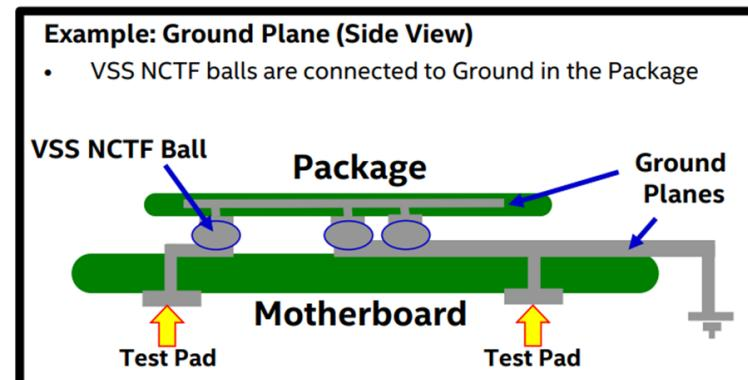

Figure 1: VSS Example
- Some corner NCTF SJ's have pins connected to the package VSS/GROUND plane and/or VCC/POWER plane, which can be used to test SJ connectivity with ICT, using isolated test pads added to the customer's motherboard designs -> see Figures 1 & 2 below
OPTIONAL: For corner NCTF SJ testability, these BGA pins (shown in the tables and in green color) can be connected to isolated motherboard test pads and not connected to motherboard VCC/VSS plane (refer to Figures 1 & 2 in MAS section 2.4). The disconnection is not a functional concern; however, it is desirable for the routing of the test pads to not cause a split in the planes.